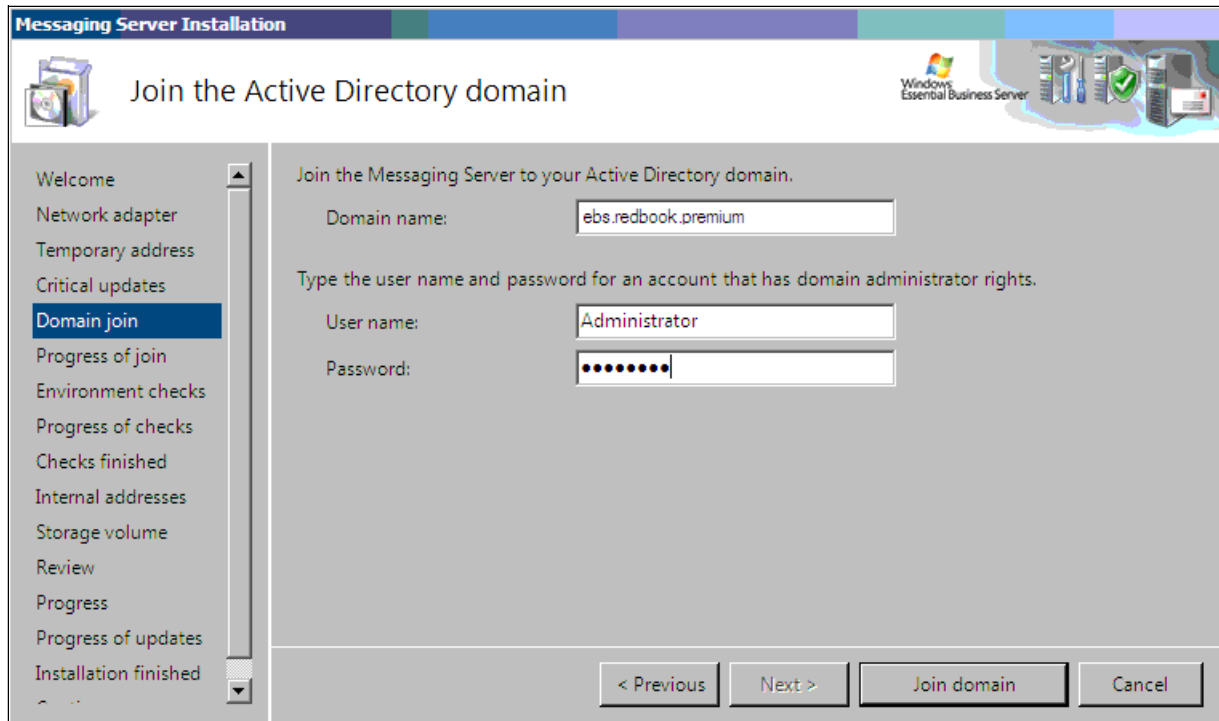

Figure 4-40 Join the Active Directory domain
12. On the “Join the Active Directory domain” panel (Figure 4-40), type the Active Directory domain name that the Management Server is to join. Type the domain name and credentials of an account that has Enterprise Administrator permissions on this domain, and click **Join domain**. The server restarts to join the domain.